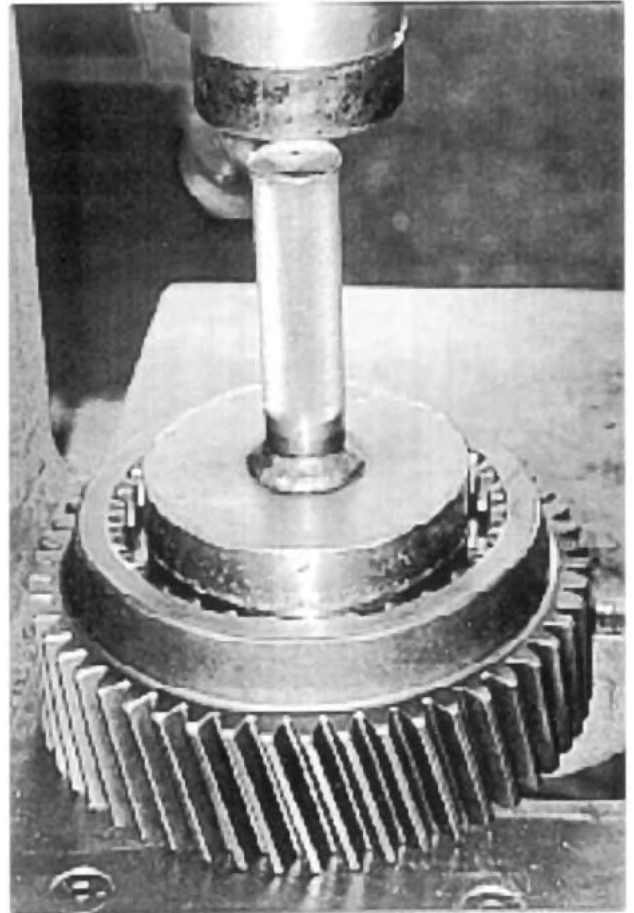

Fig. 46
3. If removed during disassembly, press the bearing cups into the lower direct drive gear. See Fig. 46.